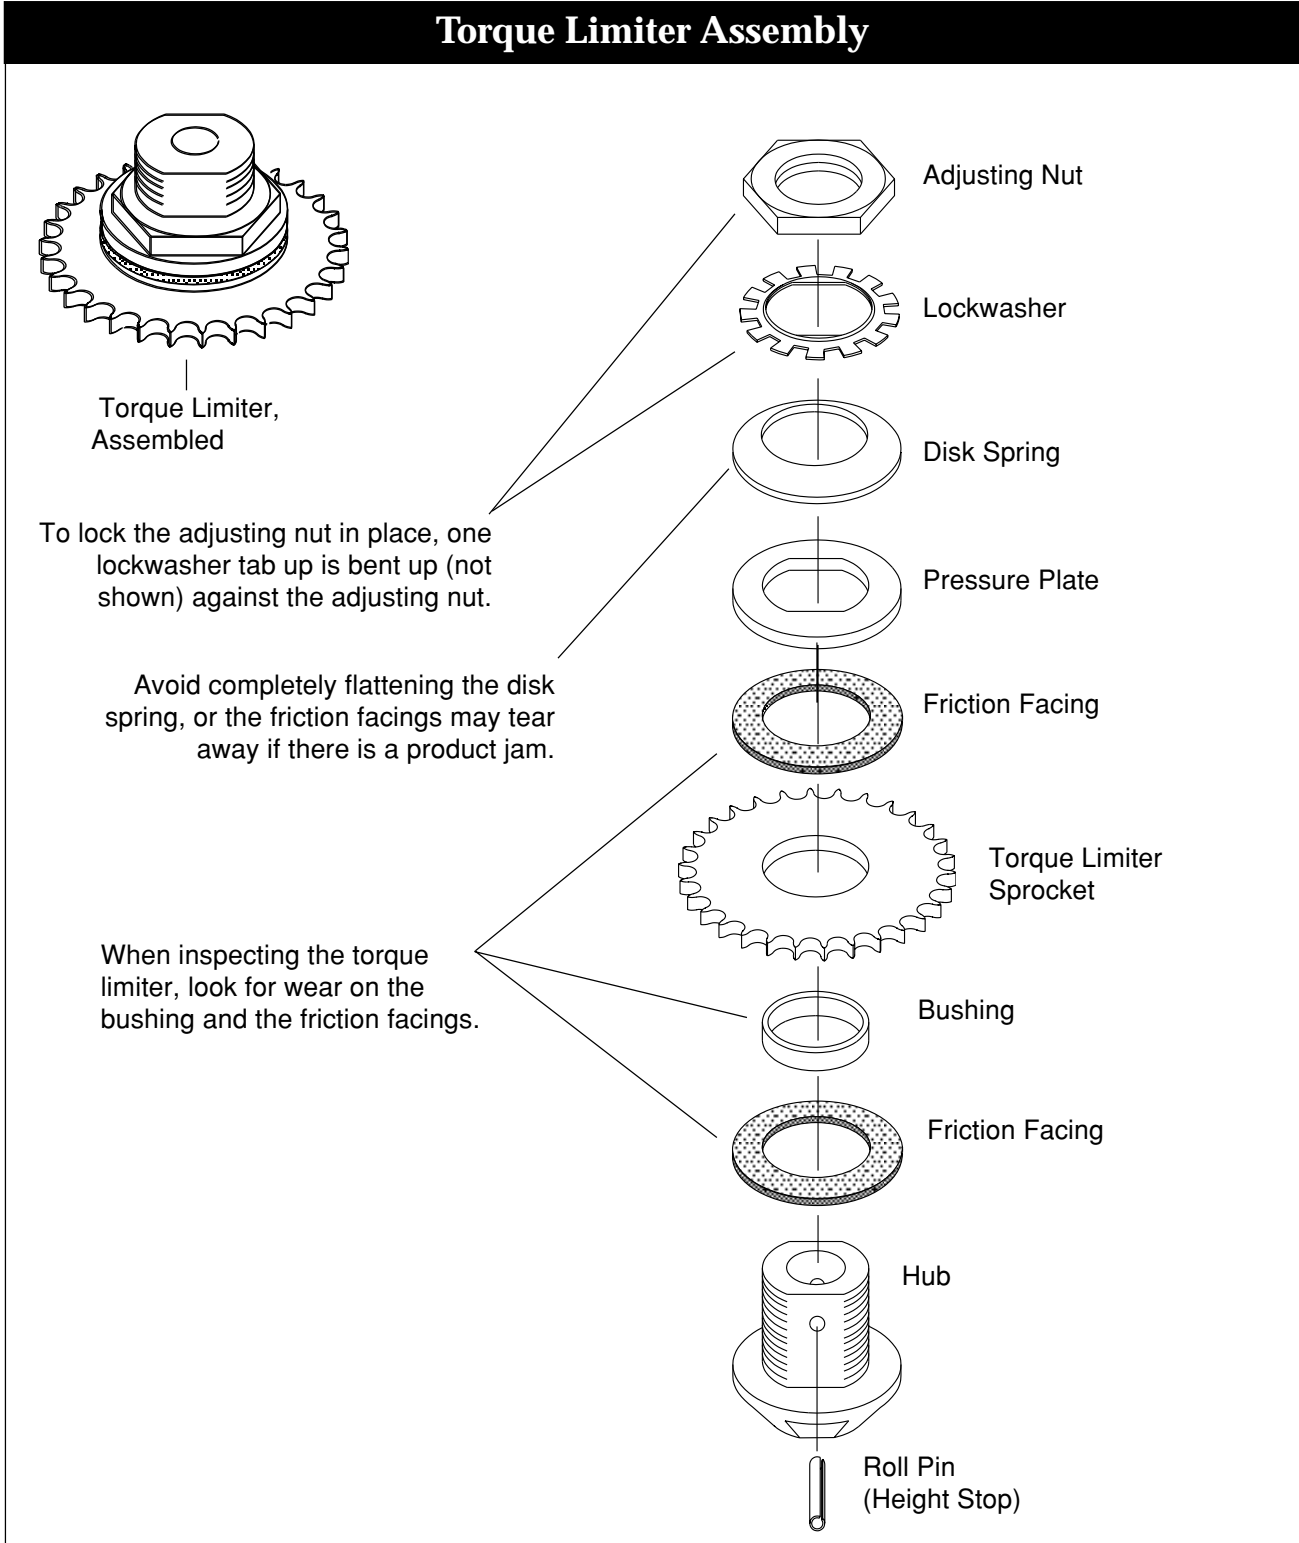

Figure 5-1. Torque Limiter Assembly
Step 3—Remove Torque Limiter. Remove and disassemble torque limiter (see Figure 5-1.) Inspect and replace any broken or worn parts. Observe order of components.
Step 5—Install Torque Limiter. Install the torque limiter. Tighten the adjusting nut (see Figure 5-1) down until the bowl turns when power is applied with minimum slippage. Do not completely flatten the disk spring. Also do not lock the adjusting nut yet. You will lock the adjusting nut after turning on the motor. Some slippage must occur to prevent damage, however, there should be no slippage if the bowl is at maximum rotation.
Step 4—Reducer Installation. Remove the torque limiter and reducer mounting brackets from the old reducer and install them on the new reducer. Slide the torque limiter assembly down onto the reducer output shaft until it bottoms out against the roll pin (see Figure 5-1). Tighten setscrew.
Step 5—Assemble Output Shaft. Unlike the ANSI speed reducer, which includes an integral output shaft, the output shaft on the metric speed reducer comes as a separate kit. If replacement is required, clean both contact surfaces before assembly and apply any appropriate anti-seize compound to avoid oxidation (rust) and possible seizing of parts. Slide the torque limiter assembly down onto the reducer output shaft until it bottoms out against the roll pin (see Figure 5-1). Tighten setscrew. The speed reducer used in the metric FT-40-RD or FT-50-RD feeder is lubricated for life with synthetic lubricant and requires no filling before use.